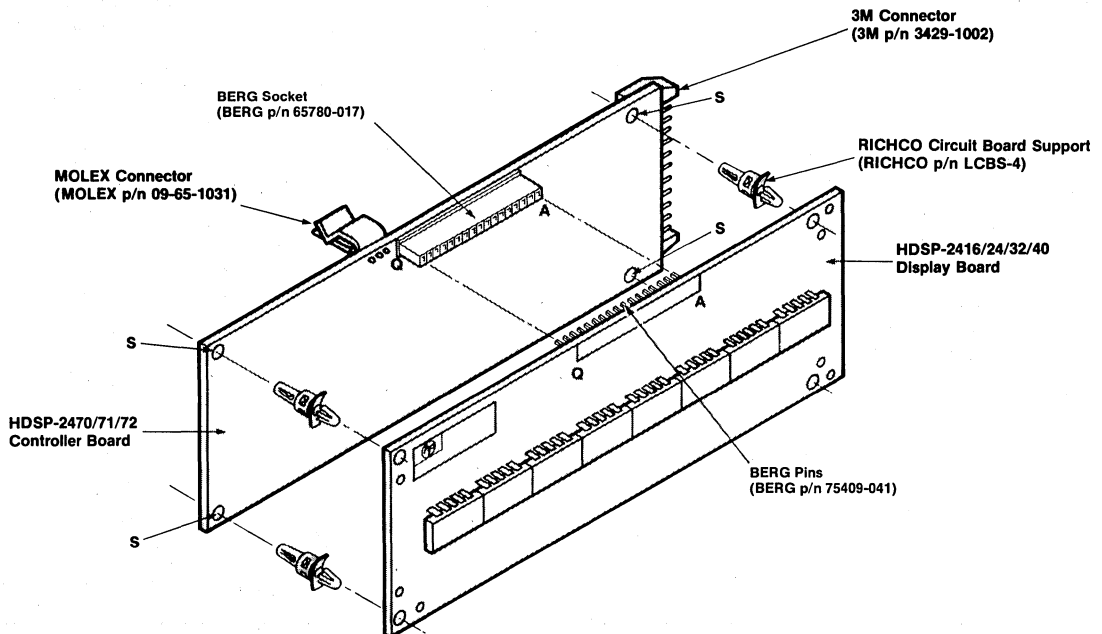

Figure 12. Assembly Drawing.
Included with the controller board are four locking circuit board support nylon standoffs (Richco LCBS-4). This hardware allows the controller board to interconnect with any of the standard display boards. Figure 12 depicts correct assembly technique.
1. Insert the standoffs into .151 diameter holes (noted as "S" on Figure 12). The long end of the standoffs should protrude through the controller board side.